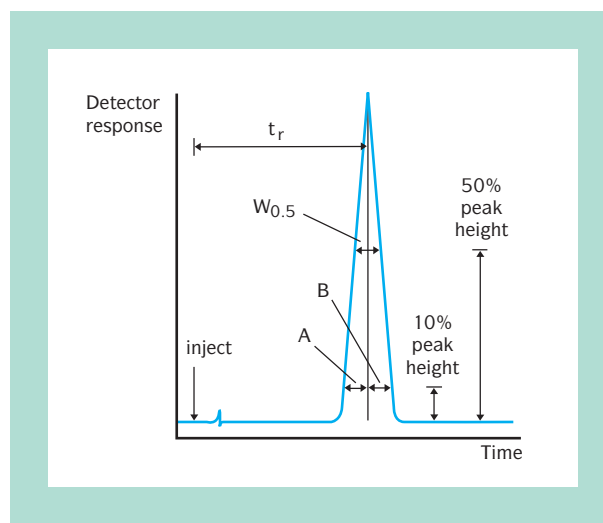

Figure 16 | Measurement of peak efficiency and peak asymmetry.
The efficiency for each compound is measured at 50% of peak height, figure 16.
The asymmetry factor (As_{0.1}) is determined from the front (A) and the back (B) peak widths at 10% peak height, figure 16.